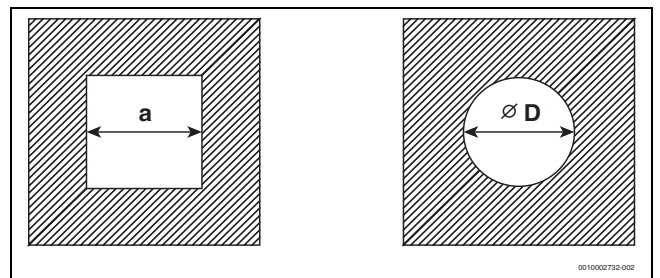

Fig. 5 Rectangular and round cross-section
- Check whether the duct complies with the dimensions approved for the intended application. If the dimensions a_{min} or D_{min} are **undercut**, the installation is **impermissible** (→ Fig. 5 and Tab. 5).